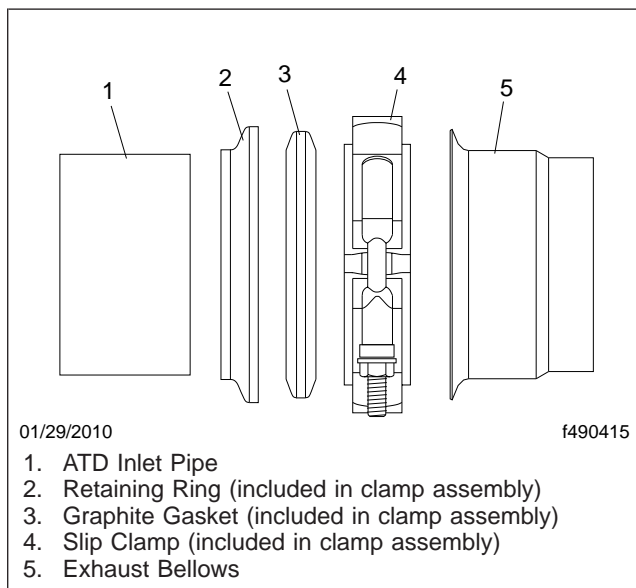

Fig. 5, Aft Facing Slip Clamp Installation
8. Slide the slip clamp assembly, with the retaining ring and graphite gasket ring, on the ATD inlet pipe. See **Fig. 5** for proper installation.